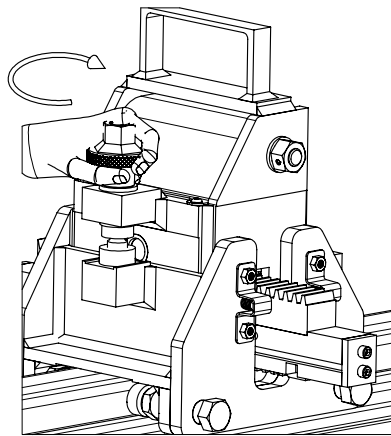

Figure 19: Turn the height adjustment knob clockwise to lower the gearbox
- b. Hand turn the height adjustment knob clockwise until the cutting tool is resting on the head of the rail (**Figure 19**).